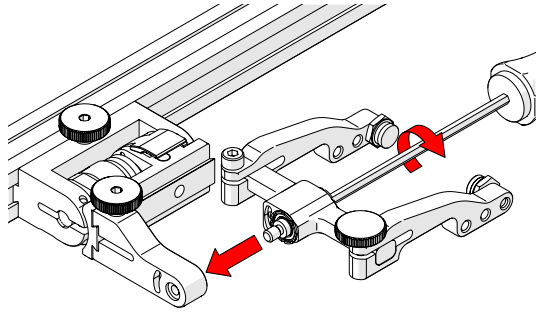

Fig. 167 - Install yoke to swing arm
6. Using the 3 mm hex driver, screw the yoke pivot screw into the opposite side of the probe holder swing arm (*Fig. 167*). Ensure the yoke is level to avoid issues with the plunger/set screw.